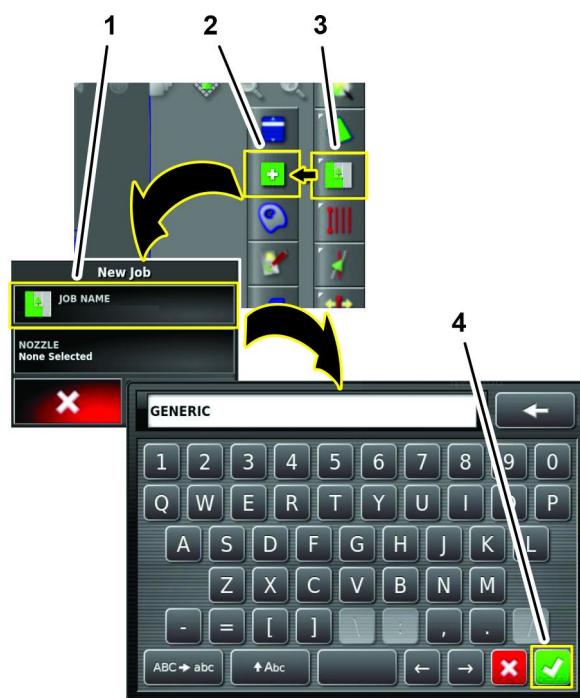

Figure 236
1. Press the Job Menu and press the CREATE NEW JOB icon (Figure 236).
2. Use on-screen keyboard to type a name for the generic job, and press the confirm icon (Figure 236).